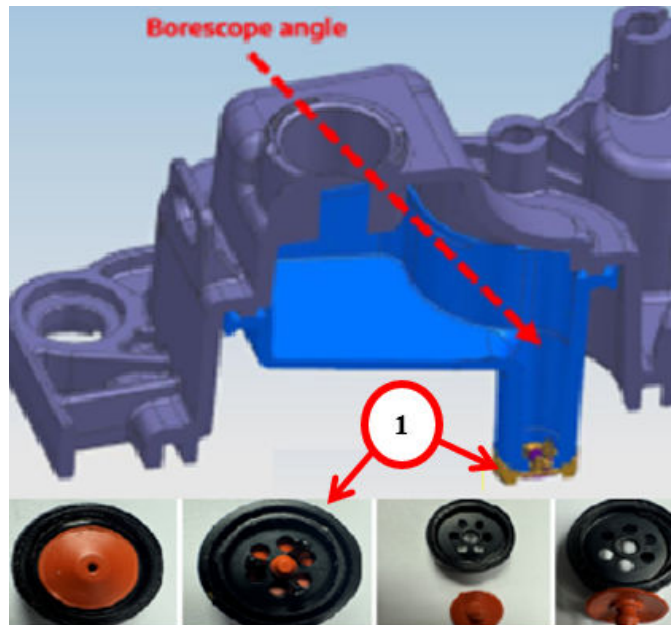
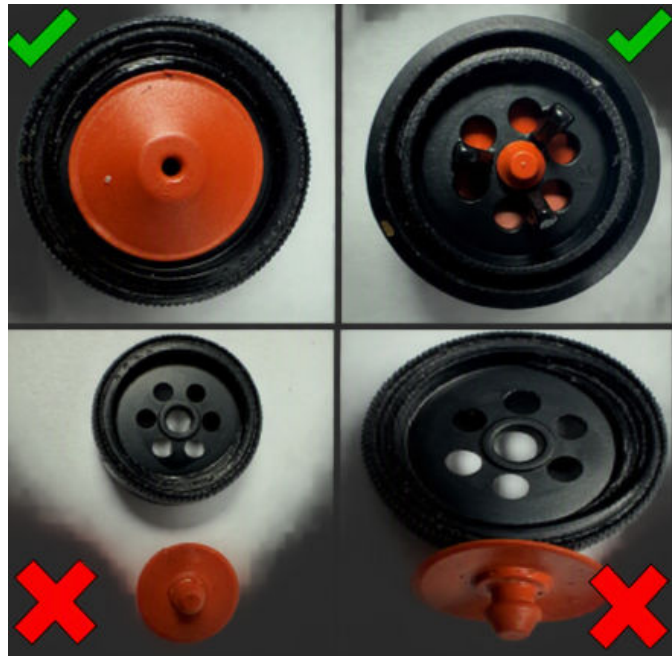

Fig. 3
Fig. 4
2. **With the PCV valve removed**, insert a borescope into the PCV valve opening Fig. 3 to inspect if the umbrella valve is missing or present Fig. 4 Fig. 5 Fig. 6.
3. Is the umbrella valve seal missing Fig. 4?